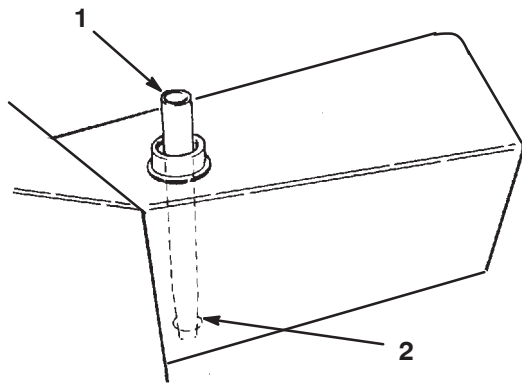

Figure 47
2. If only the filter is to be changed, remove the reservoir cap and insert the reservoir plug (Fig. 47) to block the outlet. This will retain most of the fluid in the reservoir when the filter is removed.